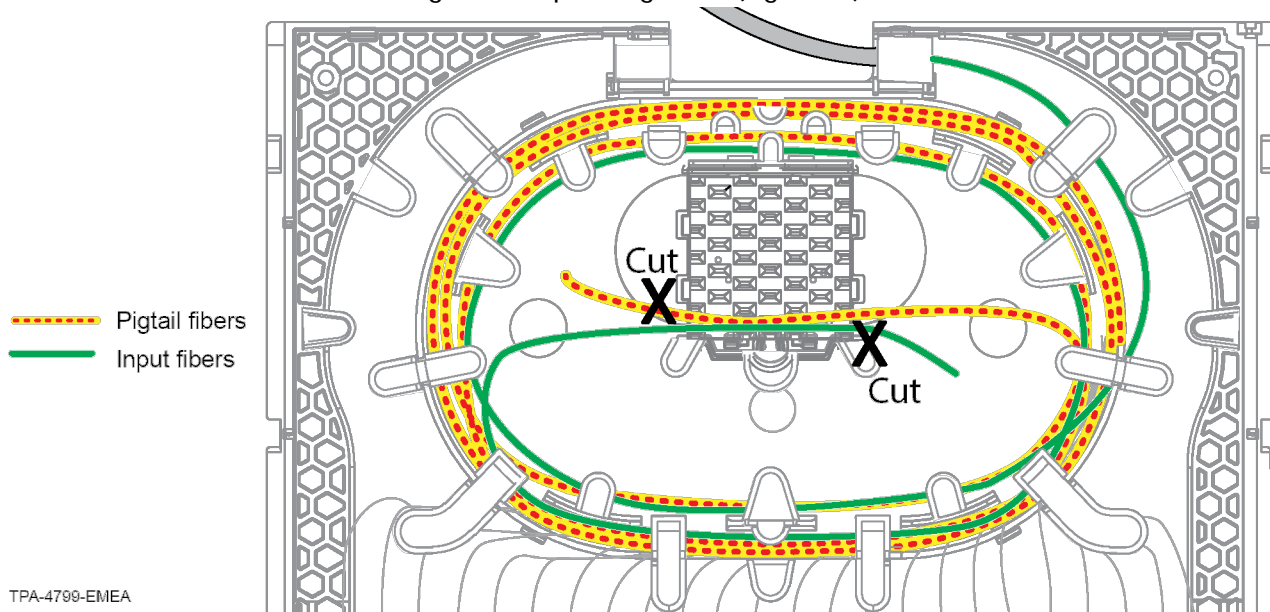

Figure 39
Step 6: Reroute last loop of the pigtail fiber to the outer path before bringing it back to the splice organizer. Cut the fibers at the outer edge of the splice organizer (Figure 39).